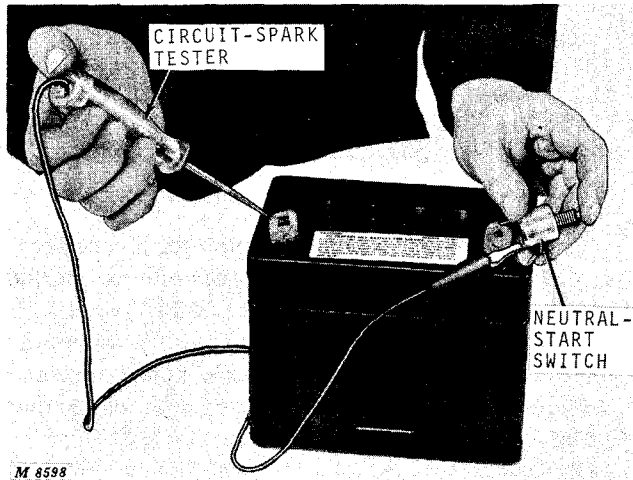

Fig. 15-Testing Neutral-Start Switches
1. Connect circuit test light lead to switch terminal. Place switch and tester on battery terminals, Figure 15.